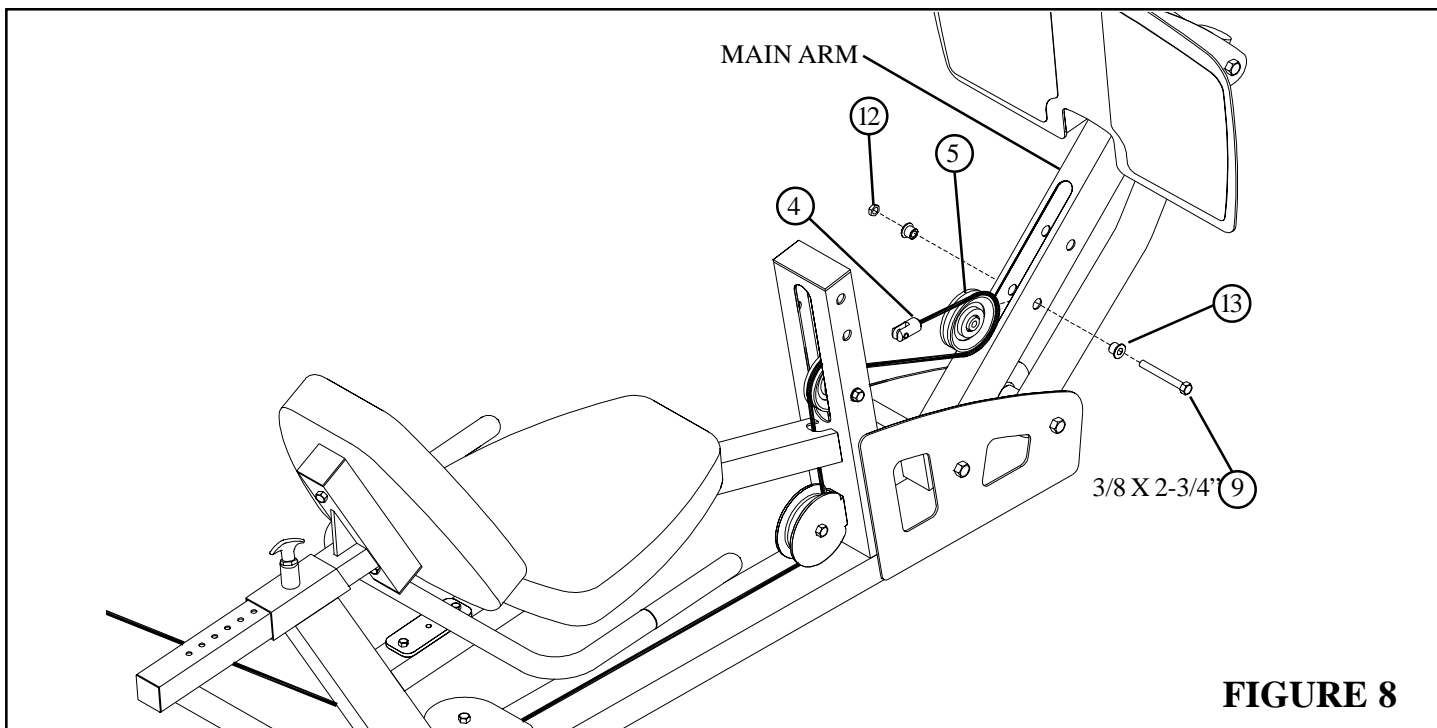

**FIGURE 7**
- Carefully route the LEG PRESS CABLE (4) around one 3-1/2" PULLEY (5) and **SECURELY** assemble the 3-1/2" PULLEY (5) to the SEAT FRAME using one 3/8 X 4-3/4" BOLT (7), two STEP SPACERS 1-9/16" (14) and one 3/8" LOCK NUT (12) as shown in FIGURE 7. Make sure the CABLE is in the grooves of all the pulleys.